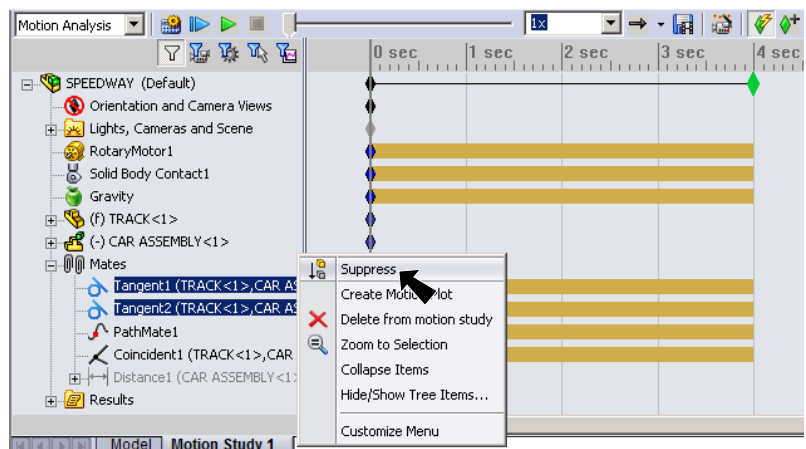

Fig. 25
Step 4. **Suppress the 2 Tangent Mates in the Motion manager tree.** To suppress the Mates, expand Mates, click the first Tangent Mate, then hold down the **Shift key** and click the 2nd Tangent Mate. Release the Shift key, **right click** and click **Suppress**  from the menu, Fig. 25.